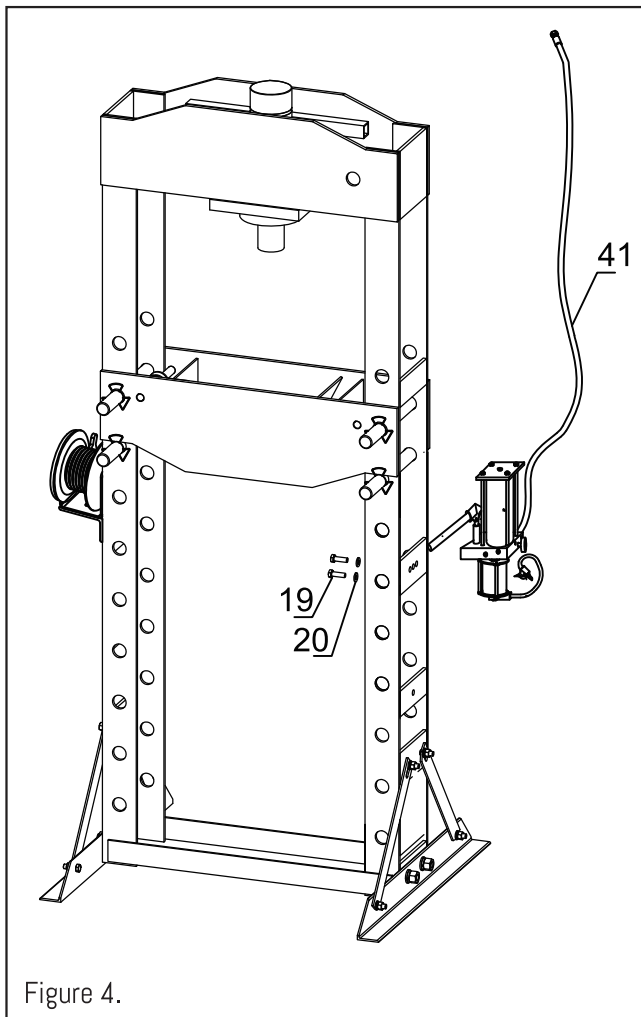

Figure 4.
5. Attach the Pump (41) to the Frame using the Bolts (19) and Washers (20). See Figure 4.